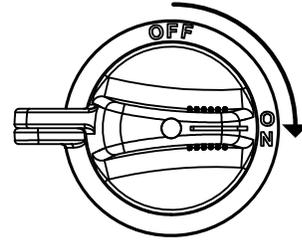

Figure 31. Battery Switch (ON)
5. Place the **Battery switch** (Figure 31) in the **ON** position.